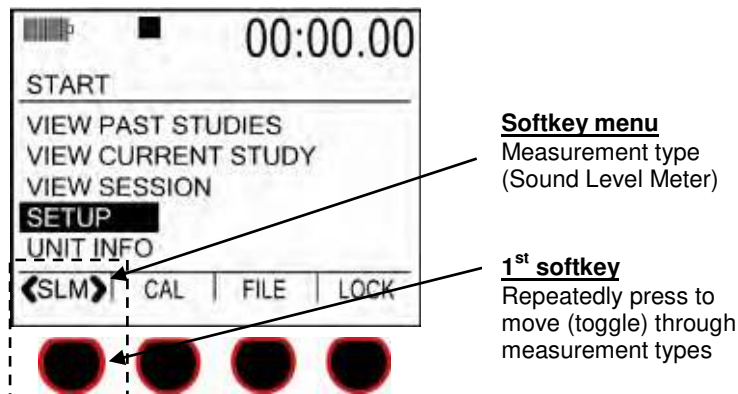

Figure 3-3: Measurement type and start screen
- If turned on and you are not at the start screen, press **On/Off/Esc**  repeatedly until the start screen appears (see Figure 3-3).
- If turned on, press **On/Off/Esc**  repeatedly until you return to the start screen (see Figure 3-3).
4. To set the **response time** for Meter 1, press the second softkey repeatedly until the either **Fast (F)**, **Slow (S)**, or **Impulse (I)** is selected.
- If turned on, repeatedly press **On/Off/Esc**  until you return to the start screen (see Figure 3-3).
- If turned on, repeatedly press **On/Off/Esc**  until you return to the start screen (see Figure 3-3 above).